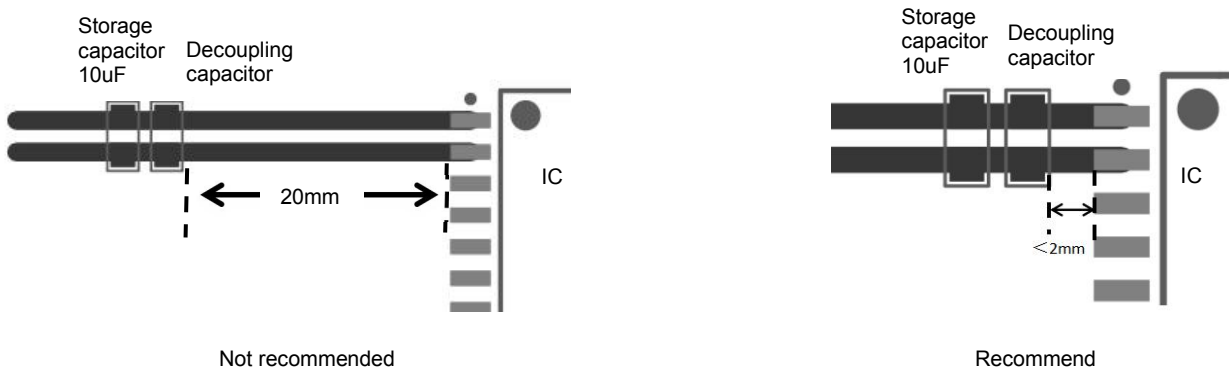

Figure14-1
1. The decoupling capacitors and energy storage capacitor of VCC and GND1, VISO and GND2 should be placed as close the chip pins as possible to the chip pins to reduce loop area and parasitic inductance of PCB traces. General control should be within 2mm. The decoupling capacitor is placed close the chip, and the energy storage capacitor is placed outside. As shown in Figure14-1.